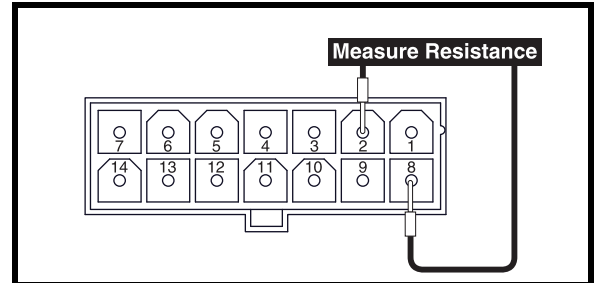

Figure 27. Connector 7a
5. Measure resistance across pin 2 and pin 8 on connector 7a. **See figure 27.**